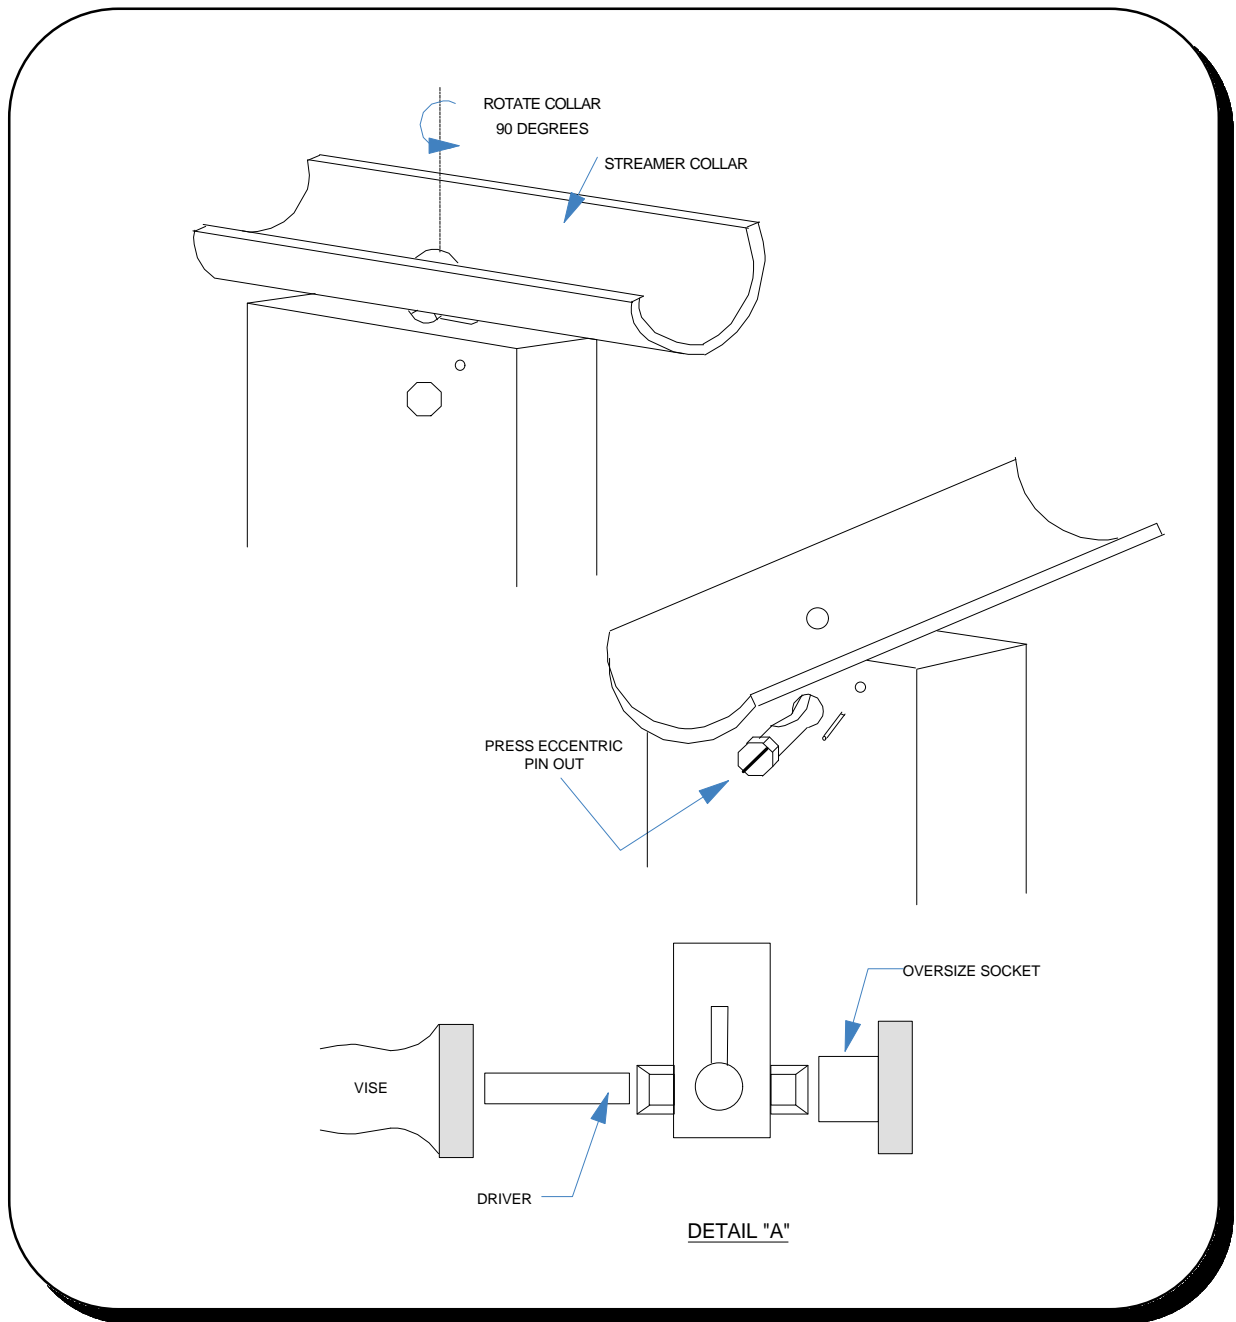

Figure 3.5.5c. Eccentric pin removal.
5. Install a half streamer collar onto the dovetail pin to provide mechanical advantage for removal. Rotate the collar 90 degrees (See Figure 3.5.5c) to extend the dovetail pin so that the eccentric pin can be removed.
6. Using a bench hand press (refer to section titled "Tools Needed", item 2) or vise, press the eccentric pin completely through per Figure 3.5.5c DETAIL A.